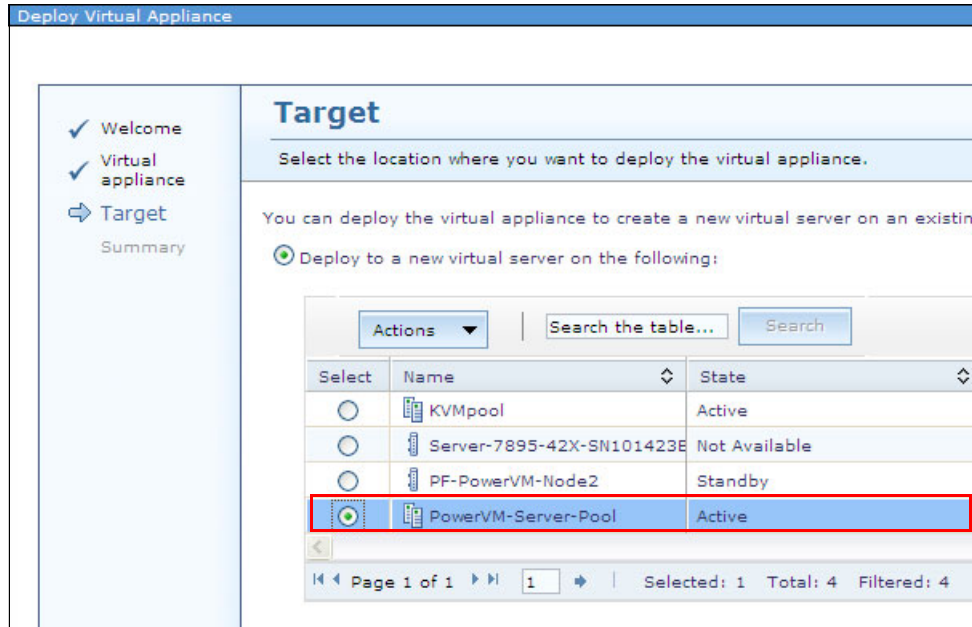

Figure 10-144 Selecting a target
4. Select a target where you want to deploy this mksysb image as shown in Figure 10-144, then click **Next**.